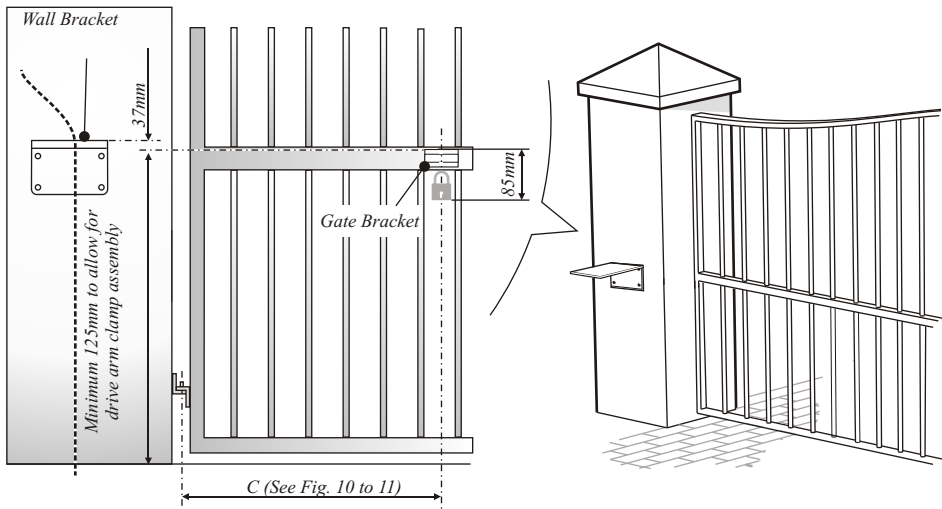

Figure 12 Determine the Position of the Gate Bracket and Pedestal or Wall Bracket
- Determine the vertical height of the pedestal or wall bracket to be 37mm above the gate bracket as in Fig. 12.
- If installing a pedestal, prepare a square hole for the pedestal foundation according to Fig. 12 at the predetermined position.
- Locate a suitable place for mounting the gate bracket according to dimension "C" as shown in Fig. 12
- Determine the height of the bracket above ground by taking into account drive arm clearance and ground clearance for the padlock. (See Fig. 12). Once correctly located, weld or screw the gate bracket to the gate using the two M4 screws provided.
8. Securely concrete the pedestal into position making sure that it is vertical, and at the correct height relative to the gate bracket, as shown in Fig. 12. Allow concrete sufficient time to cure.